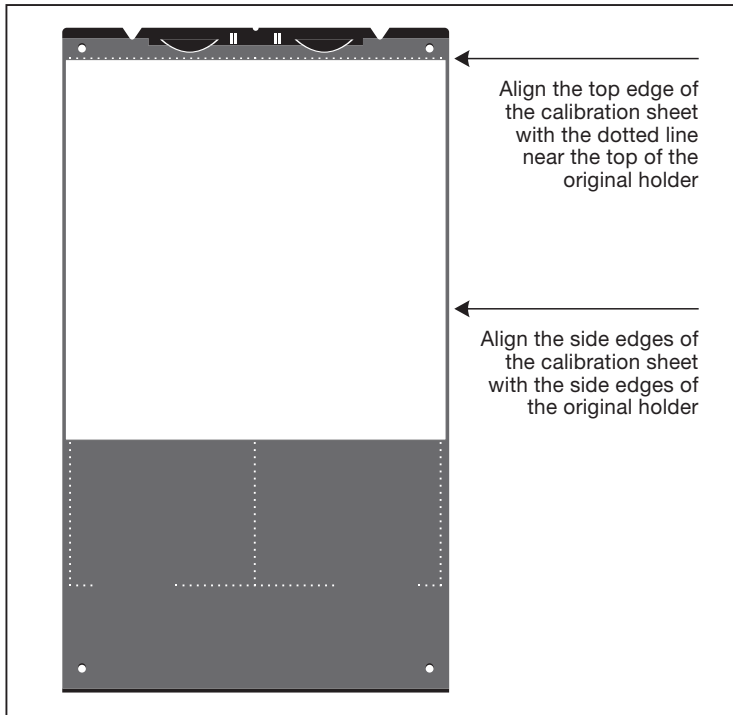

Figure 8: Positioning the white calibration sheet on the reflective holder
3. Align the top edge of the sheet with the dotted line near the top of the original holder (see Figure 8 opposite). Align each side of the target with the edges of the original holder.